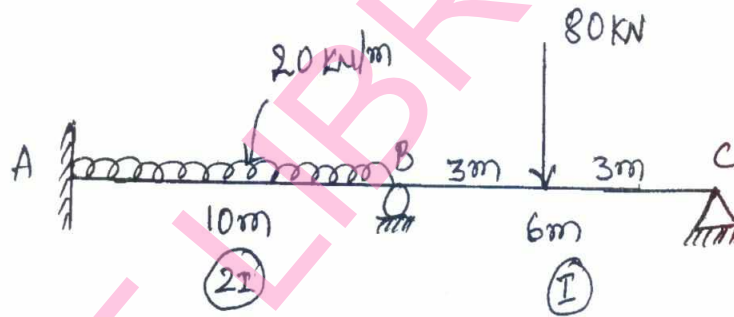

Fig. Q7
- 7 Analyse the continuous beam shown in Fig. Q7 by using stiffness matrix method. Use system approach Draw BMD. (20 Marks)